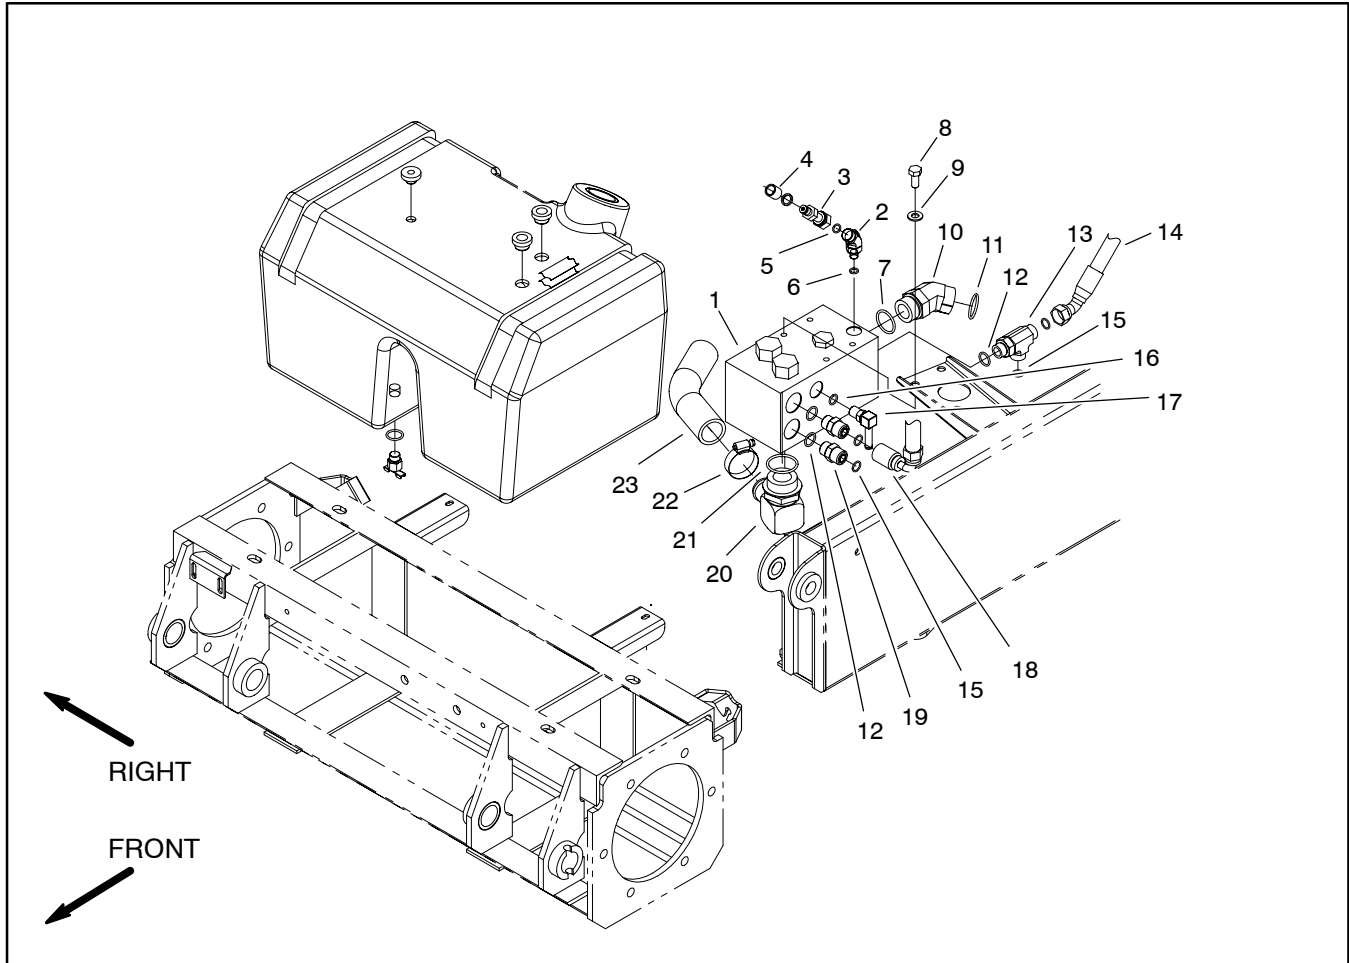

Figure 56
3. Remove hydraulic manifold from the frame using Figure 56 as guide.
1. Install hydraulic manifold to the frame using Figure 56 as guide.